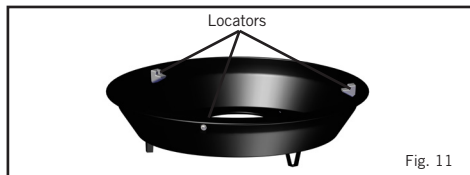

Fig. 11
- The BBQ grid locates on three die-cast locators in the fat pan (Fig. 11).
- The Chef Pan locates on three die-cast locators in the fat pan (Fig. 11).